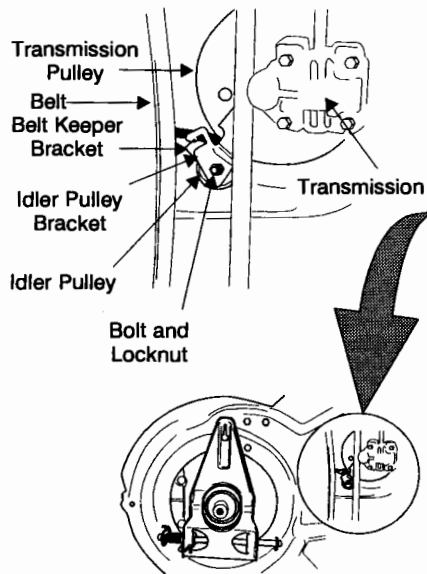

Figure 21
11. Slide the belt out from between the belt keeper bracket and the idler pulley. See figure 21.
18. Tighten the idler pulley bolt and locknut $\frac{1}{2}$ turn using two $\frac{7}{16}$ " wrenches. See figure 21.